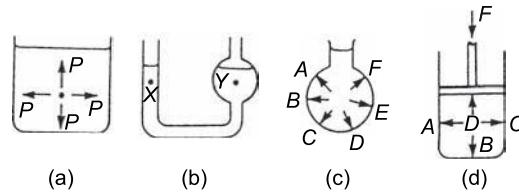

Figure 22.1
- The pressure at a given depth in a fluid is equal in all directions; see Figure 22.1(a).
- The pressure at a given depth in a fluid is independent of the shape of the container in which the fluid is held. In Figure 22.1(b), the pressure at X is the same as the pressure at Y.
- Pressure acts at right angles to the surface containing the fluid. In Figure 22.1(c), the pressures
- (d) When a pressure is applied to a fluid, this pressure is transmitted equally in all directions. In Figure 22.1(d), if the mass of the fluid is neglected, the pressures at points A to D are all the same.